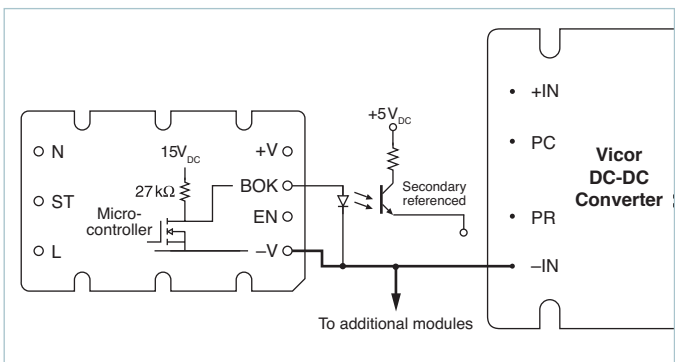

Figure 12 — Bus OK (B OK) isolated power status indicator
**Bus-OK (B OK) Pin:** (See Figure 12) The Bus-OK pin is intended to provide early-warning power fail information and is also referenced to the negative output pin.
The power fail warning time ( $\Delta t$ ) is defined as the interval between (B OK) and converter shutdown (EN) as illustrated in Figure 12. The Bus-OK and Enable thresholds are 205V and 190V, respectively. A simplified relationship between power fail warning time, operating power, and bus capacitance is obtained by inserting these constants: